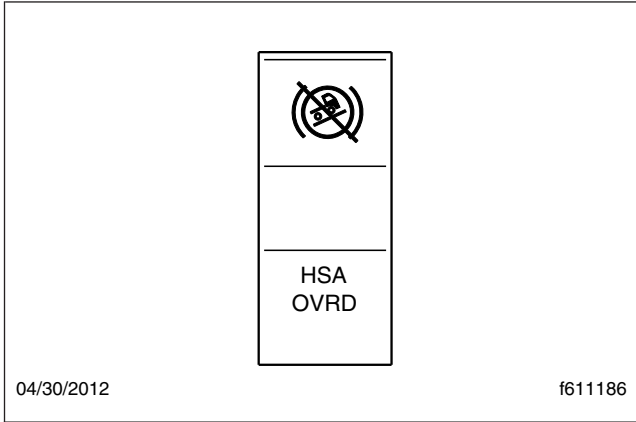
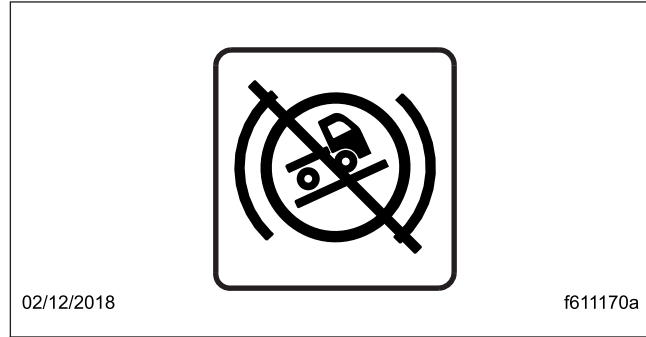

Fig. 9, HSA Switch
Fig. 10, HSA Telltale
16. Press the HSA override switch, and verify that the HSA indicator light illuminates. See Fig. 9 and Fig. 10.